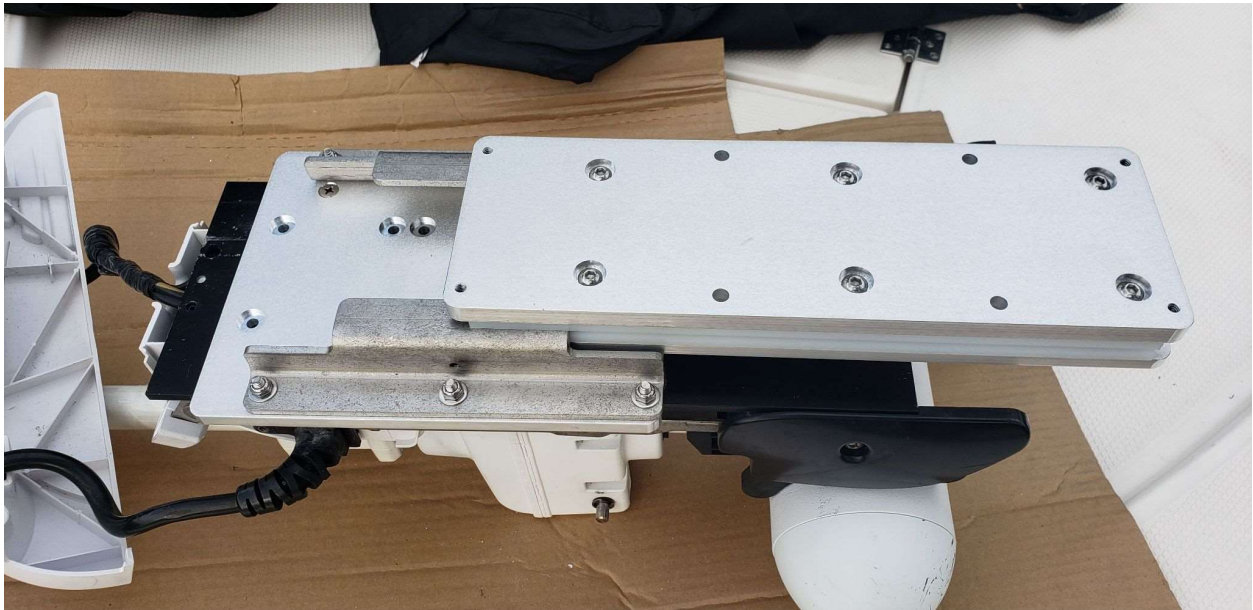

Figure 4a
- Slide the Mount onto the Carriage Brackets as shown in Figure 4a